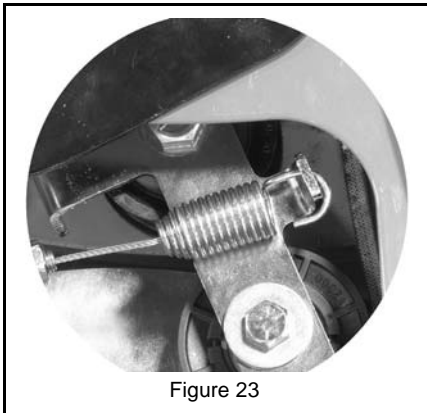

Figure 23
2. Connect the wheel drive cable spring to the idler arm as shown in Figure 23, and then connect the wheel drive cable to the transmission mount. See Figure 20.